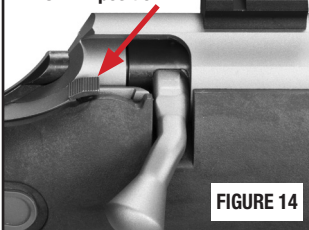

FIGURE 14
- Place the safety lever in the "SAFE" position (FIGURE 14).